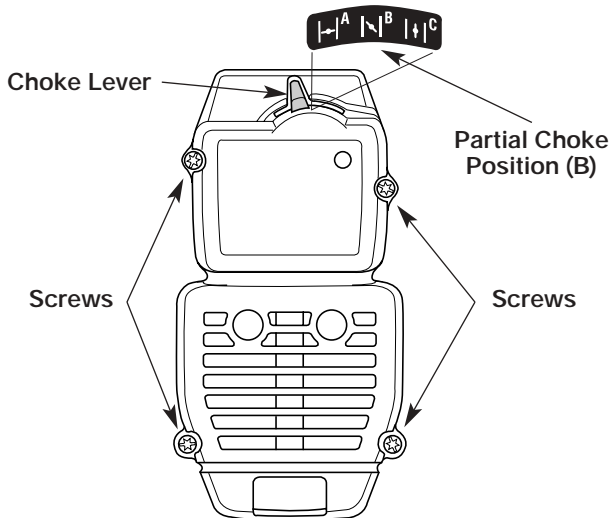

Fig. 22
- Place the choke lever in the **PARTIAL** choke position (B).
**NOTE:** The choke lever must be in the **PARTIAL** choke position (B) to remove the air filter/ muffler cover.
- Remove the four (4) screws securing the air filter/muffler cover (Fig. 22). Use a flat blade or T-20 Torx bit screwdriver.
2. Insert the four (4) screws into the holes in the air filter/muffler cover (Fig. 22) and tighten.